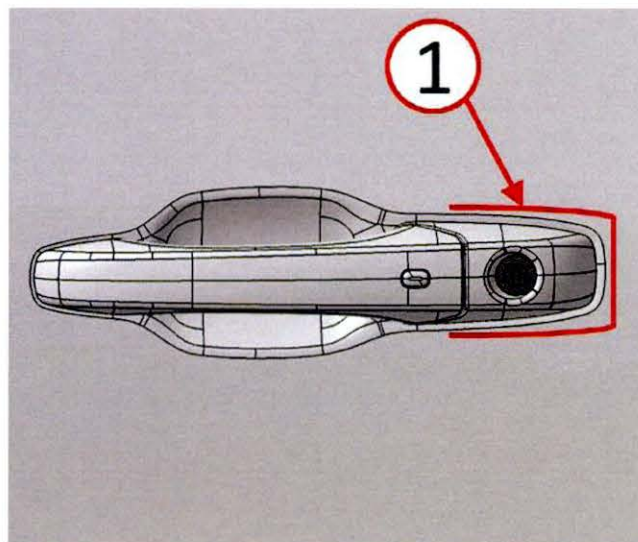

Fig. 7 Door Handle Cap Centering
8. Visually verify that the door handle cap is sitting properly on the door (Fig. 7).